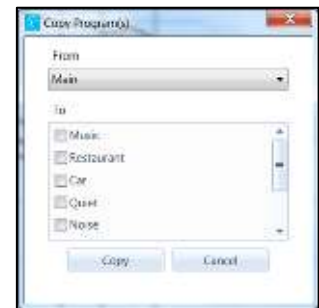

Figure 36. Copy programs
- Programs can be swapped and copied from one to another using the Copy Program(s) menu featured in the Tuning tab (Figure 36).